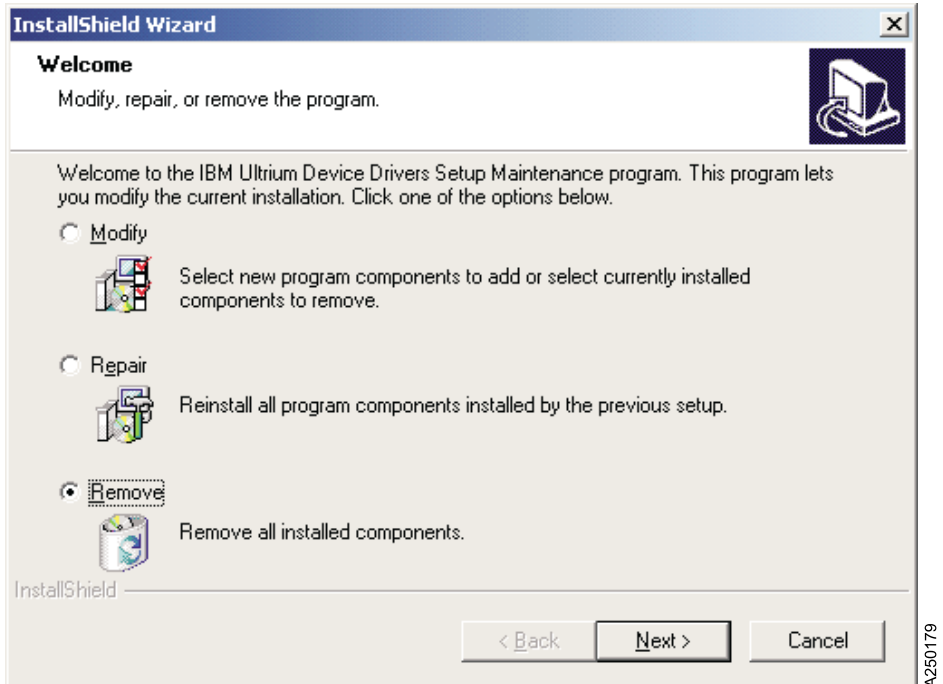

Figure 44. InstallShield Wizard Menu
9. The InstallShield Wizard window opens. Select **Remove**, then click **Next >**. See Figure 44.